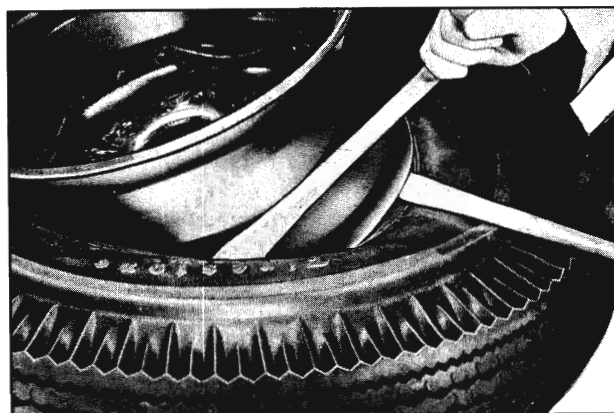

Fig. 5-41 Removing Tire
4. Turn the tire over and again use tire irons, one between the rim and bead to pry the rim out, the other to pry outward between the tire bead and rim as shown in Fig. 5-41.